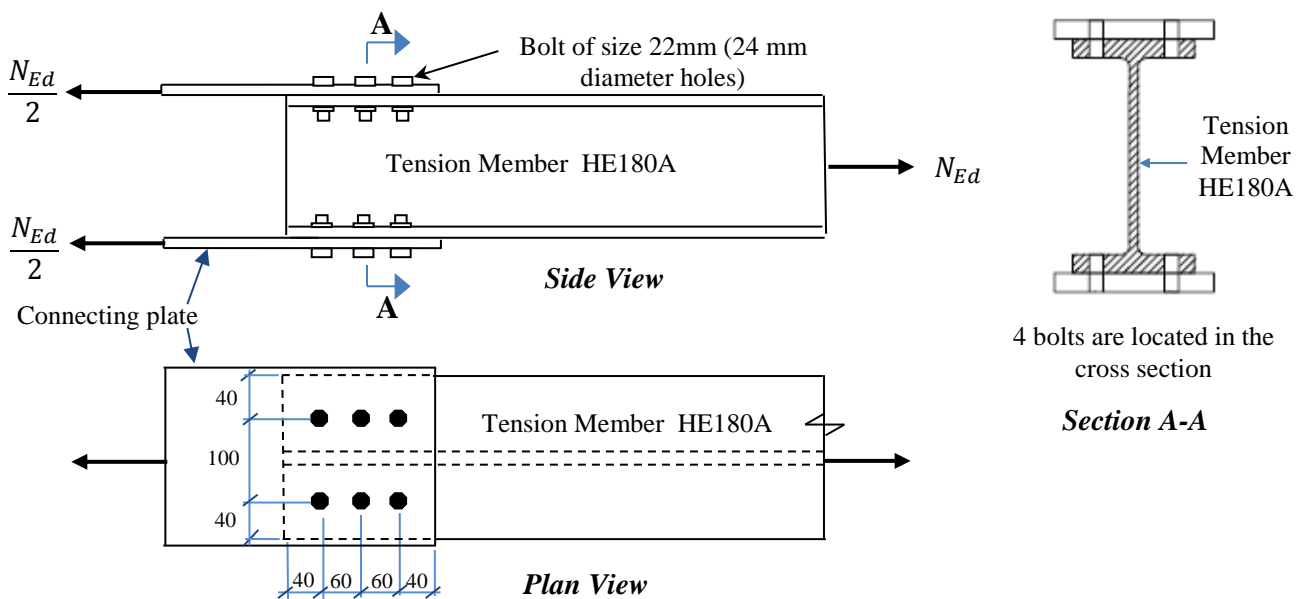

Figure 1. Connection detail of one end of the tension member
Both ends of a tension member are concentrically connected by symmetrically arranged 2×6 number of ordinary bolts in each flange as shown in Figure 1. The bolts class is 8.8 (i.e. Skruer 8.8) and type of bolts is M22 (i.e. bolt diameter is 22 mm and hole diameter is 24mm). The cross section of the tension members is HE180A (HE-A Table 1.2 of “STÅLKONSTRUKJONER”) of S275 steel grade. The tension member is subjected to a design tensile force (N_{Ed}) of 760 kN.
- (a). The four bolts are located in a single plane, which is perpendicular to the loading axis, as shown in Section A-A in Figure 1.
- (b). The shear planes of all the bolts are passing through **threaded (gjenget)** portion. The connecting plate material is S275 steel and thickness of the connecting plate is 8 mm. The spacing, end and edge distances are as shown in Figure 1.